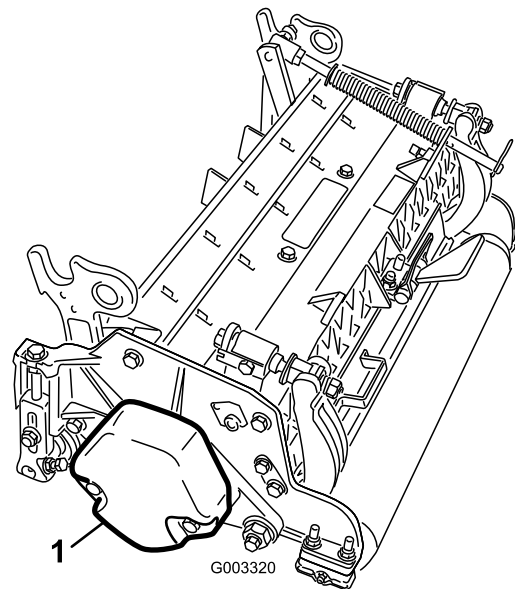

Figure 4
3. Make sure that the counterweight (Figure 4) is installed at the proper end of the cutting unit as described in the cutting unit *Operator's Manual*.